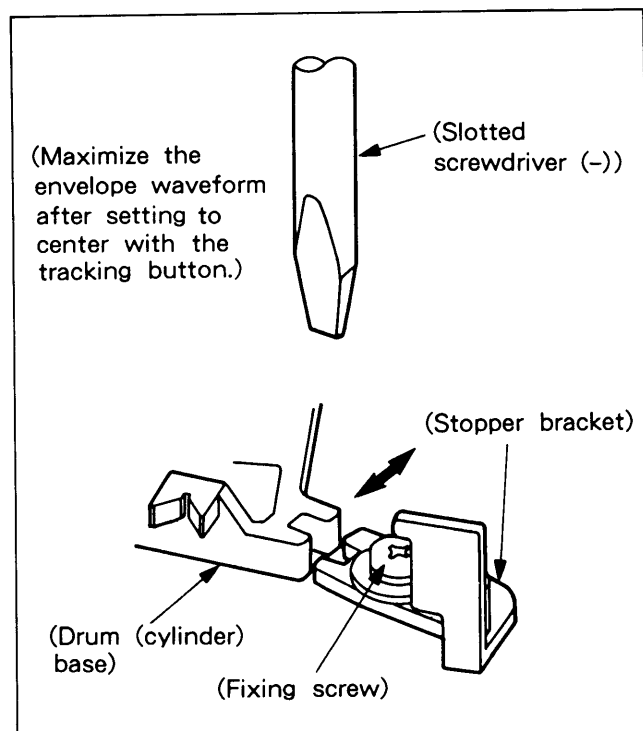

Fig. 6-4-9
(2) Tracking (X Value) Adjustment (See Fig. 6-4-9.)